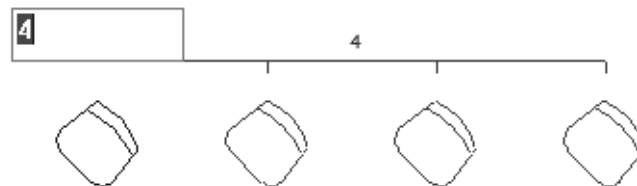

Figure 2–37
6. If **Group and Associate** is selected, you are prompted again for the number of items, as shown in Figure 2–37. Type a new number or click on the screen to finish the command.